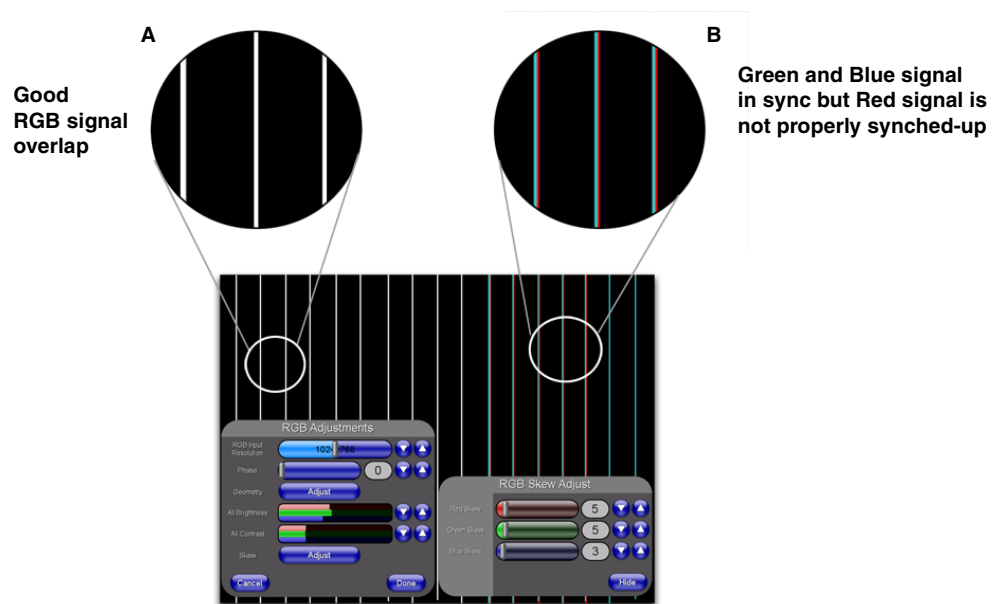

FIG. 113 Full Screen Edit Mode - showing skew adjustment scenario
- Do your skew adjustment using an image which contains single pixel-wide white vertical lines (such as those seen in FIG. 113). This allows you to verify that your RGB signals are being received at the same time.
- The lines in circle **A** of FIG. 113, show how all three signals are in sync and overlap to produce the single white line.
- The lines in circle **B** of FIG. 113, show how the Red signal is being delivered with a slight delay and is "throwing off" the color of the line. Altering the Red Skew value can compensate for this delay and re-align the image.